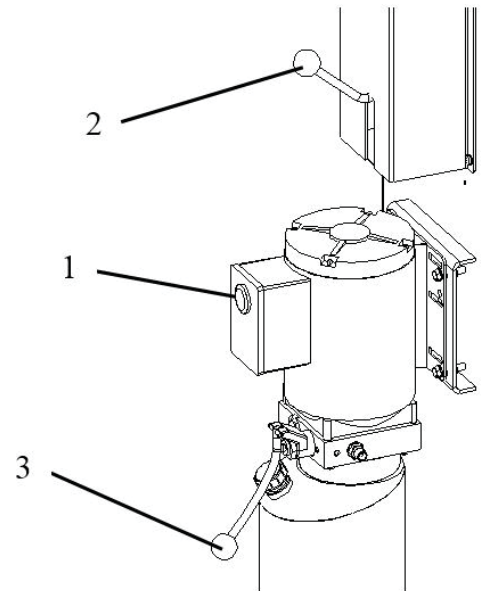

Figure 17 - Controls
- Raise the carriages to check the equalizer cable tension by grasping the adjacent cables between the thumb and the forefinger so that you can just pull the cables together (ref. fig. 17);